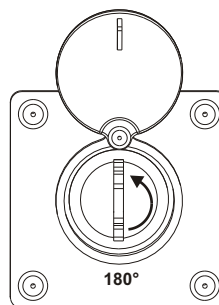

Fig.18
Release the beam with manual release, so that it is free to be opened and closed manually (Fig.18).
- Insert the key into the same and turn it about 180° into anti-clockwise direction until the beam is released (Fig. 18).